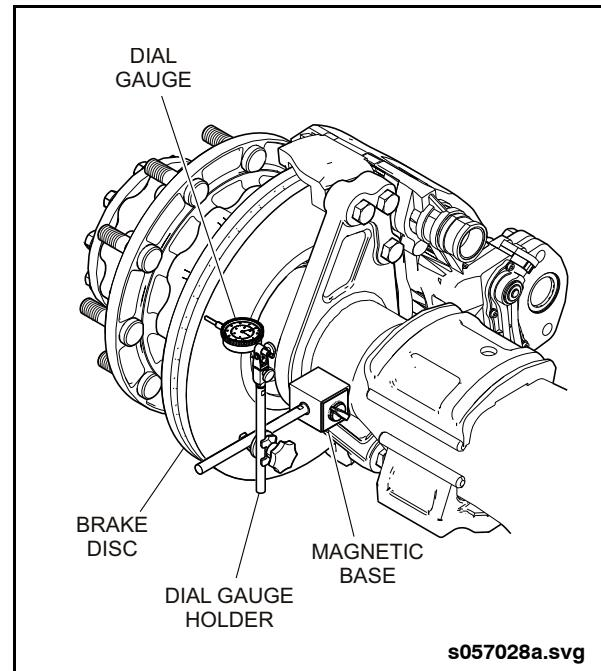

Fig. 2-10: Wheel Bearing Inspection
3. Attach the base of a magnetic dial gauge to any rigid part of the vehicle structure or axle housing. See "Fig. 2-10: Wheel Bearing Inspection" on page 15.